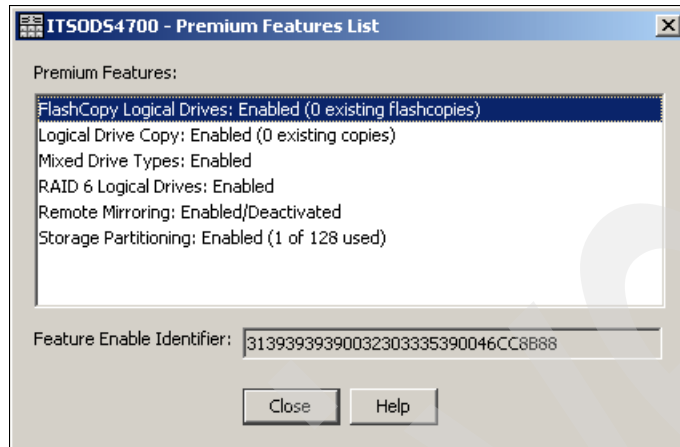

Figure 9-20 Listing of premium features
1. Select **Storage Subsystem** → **Premium Features** → **List** from the Subsystem Management window, or select **Premium Features** → **List** from the pop-up menu. As a result, the Premium Features dialog is displayed with a list of enabled premium features (Figure 9-20).
2. From the Subsystem Management window, select either the **Storage Subsystem** → **Premium Features** → **List** pull-down menu option, or **Premium Features** → **List** from the right-click pop-up menu (see Figure 9-20 on page 375).